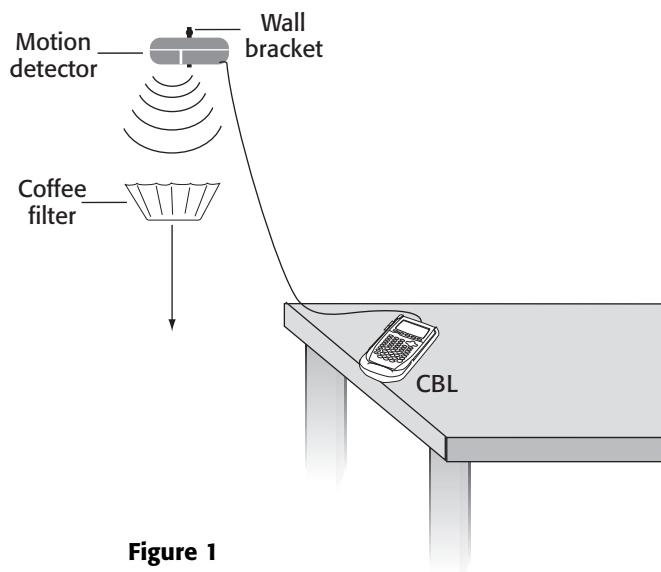

Figure 1
5. Make sure the area around you is free of obstructions. Hold the coffee filter about 0.5 m under the motion detector, as shown in **Figure 1**. Do not hold the filter closer than 0.4 m. Select START to begin data collection.